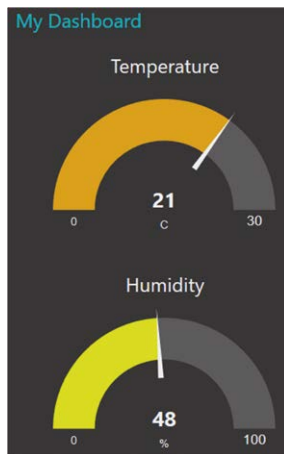

Figure 13.21 Displaying the humidity and temperature
- You should see the humidity and temperature displayed as shown in Figure 13.21